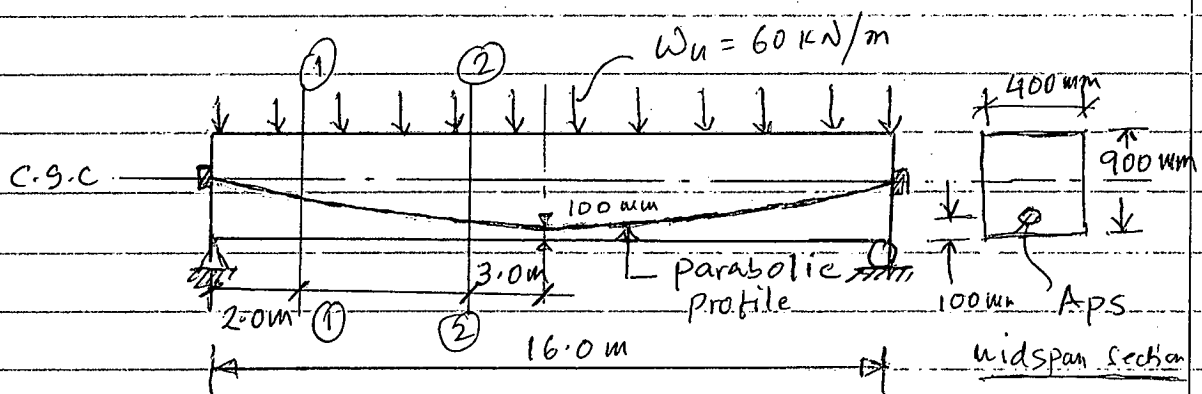

Fig. 4
- (b) Check shear strength for the beam shown in Fig. 4 at section 1-1 and 2-2 respectively. Given that the section is adequate for $W_u = 70 \text{ kN/m}$ on the basis of its flexural strength. Given: Effective prestress = 1000 MPa, Initial prestress = 1250 MPa and $f'_c = 40 \text{ MPa}$. Use ACI equations. (15)
6. (a) State the advantages and disadvantages of FEC column sections over CFT column sections. (5)
- (b) A Fully Encased Composite (FEC) column section is shown in Figure 4. check whether the provided section satisfies the code specified limits for: (2½)
- (c) Check the adequacy of the section provided in Figure 4 to resist the given compressive load. Use the data provided in 6(b) as required. (10)